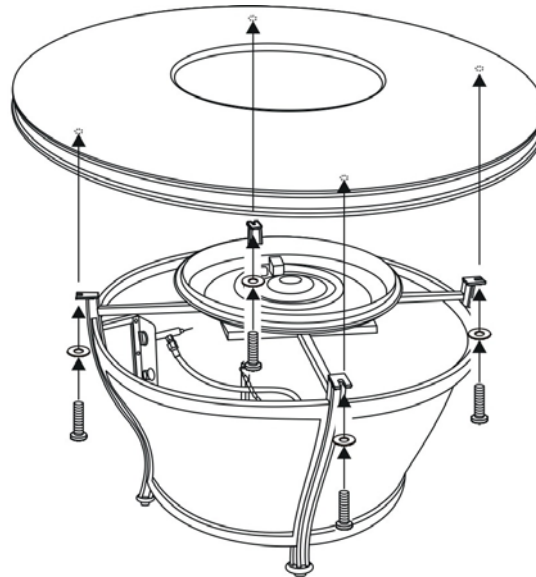

Figure 3
1. With the help of another person, carefully place the natural stone table top (**Separate pack**) onto the table base. After making any necessary adjustments to the alignment of the natural stone table top and the firepit base, use bolts and washers as shown in Figure 3. Guide the bolt through the holes in the firepit base, into the pre-drilled hole on the underside of the natural stone table top. Do not tighten completely. Repeat for the other three sides. (Note: holes do not go through to the top of the table. Holes shown for illustration purposes only.)